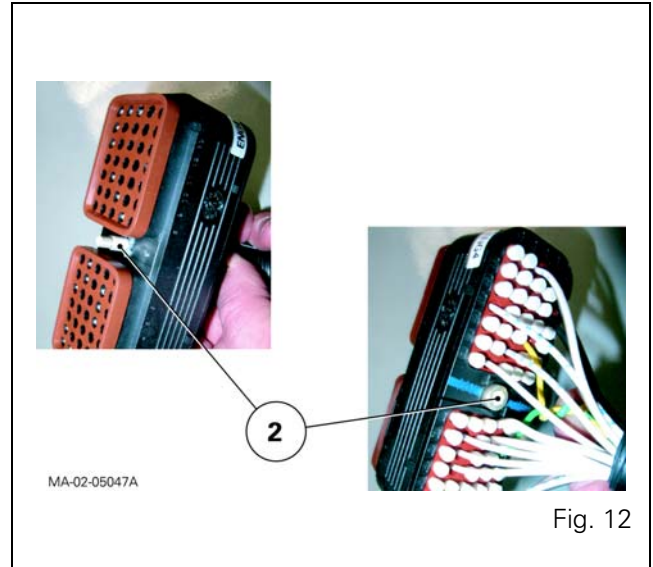

Fig. 12
- Screw (2) of connector (1) on main wiring harness (Fig. 5 and Fig. 12) 2.82 to 3.15 Nm